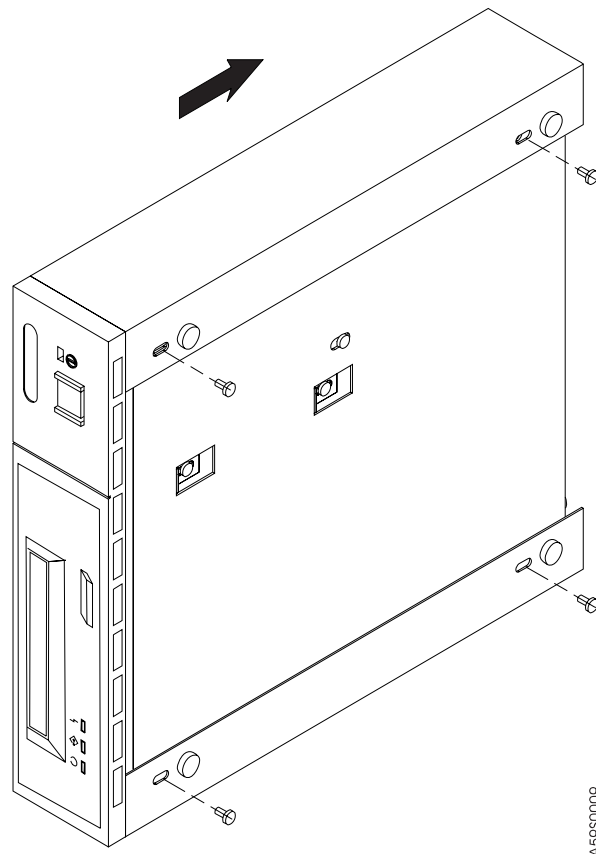

Figure 13. Removing and Replacing the Cover. The 7206 Tape Drive is shown tilted on its side.
7. Tilt the 7206 Tape Drive on its side and remove the four cover mounting screws from the bottom. See Figure 13.
8. Remove the cover by sliding it to the rear (see the directional arrow in Figure 13).